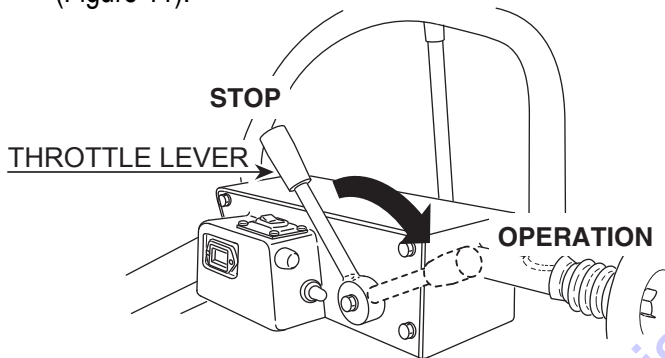

Figure 11. Throttle Lever (Operation Position)
1. Move the throttle lever to the operation position (Figure 11).